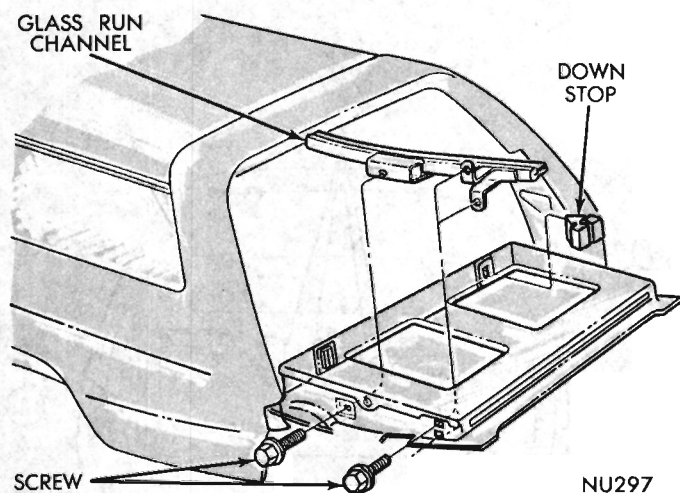

Fig. 50 - Glass Run Channel
- (1) Remove the tail gate glass assembly.
- (2) Remove tail gate pillar to glass run channel screws (Fig. 50).
- (3) Remove channel assembly through access holes in inner panel.